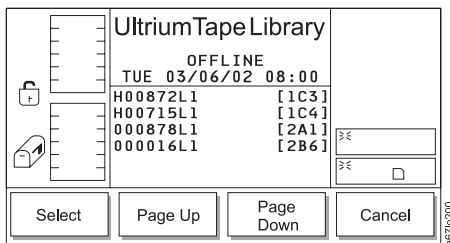

Figure 4-37. Media Dialog
3. Press the button below the **Media** softkey. The Media Dialog displays a list of tape cartridges in the library by their VOLSERs and their locations (see Figure 4-37). The location is a 3-character physical address (x y z) where x equals the number of the column, y equals the number of the magazine, and z equals the number of the storage slot.